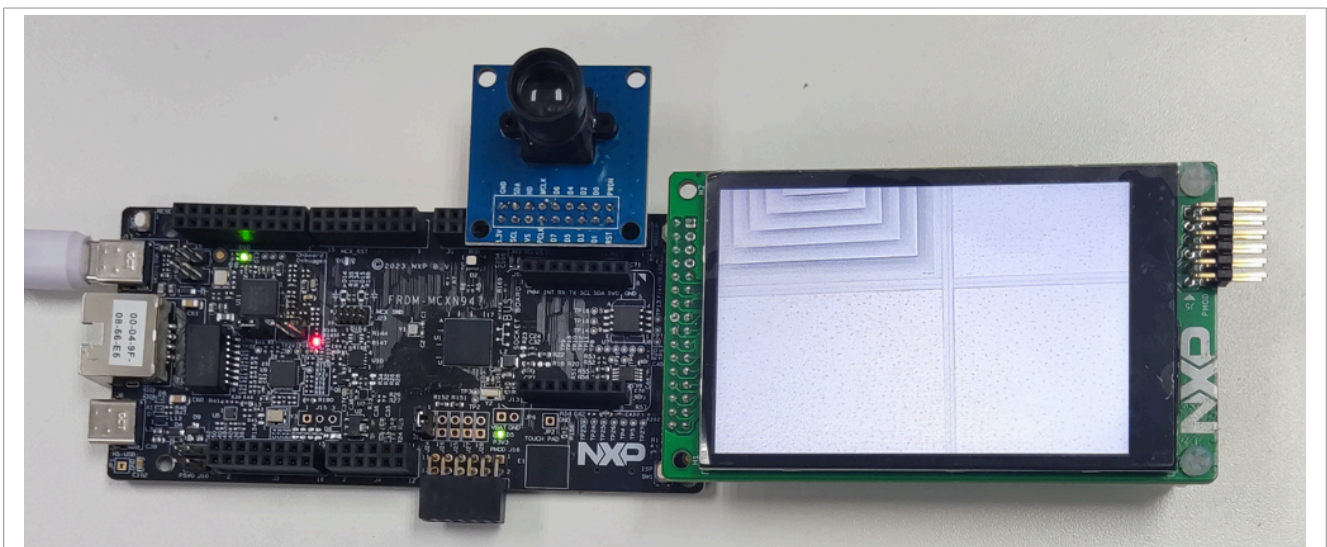

Figure 4. Demo based on FRDM-MCXN947
3. Connect the camera to the MCU by referring to the connection of interface in Figure 4.
5. The LCD displays the video frame from the camera, as shown in Figure 4.